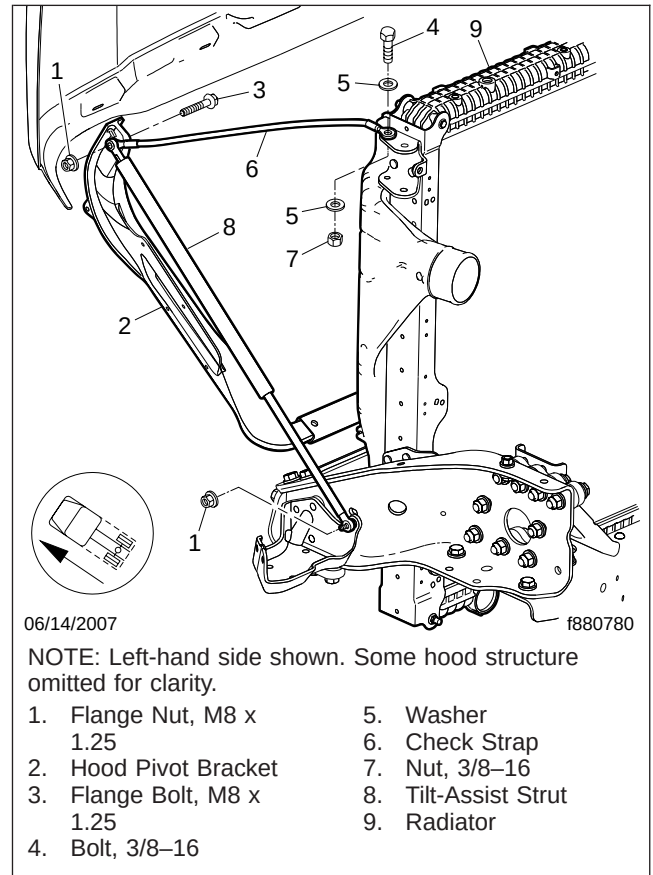

Fig. 2, Hood Tilt-Assist Strut and Check Strap Installation
the hood pivot bracket and the bumper bracket; see Fig. 2.
7. With an assistant supporting the hood in a less than full-tilt position, disconnect the hood check straps by removing the fasteners that attach them to the radiator; see Fig. 2.
3. Open the hood to a less than full-tilt position, and support it in place while connecting the two hood check straps to the brackets on the radiator; see Fig. 2.
4. Attach the two hood tilt-assist struts to the hood pivot brackets and the bumper brackets. Secure both ends of each strut with the fasteners; see Fig. 2.